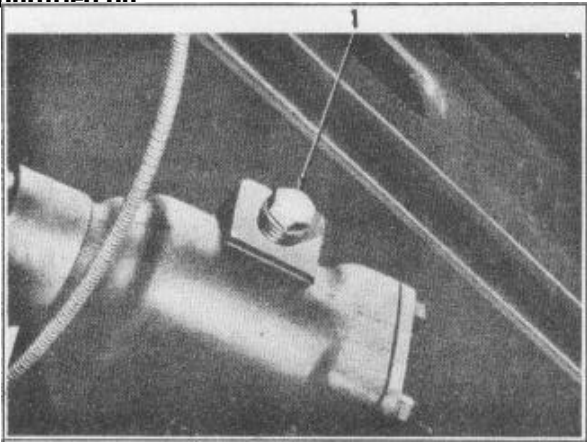

FIGURE 1
The steering gear is filled at the factory with S.A.E. 90 E.P. lubricant. This lubricant is satisfactory for all seasons. The steering gear filler plug (1) Figure 1, should be re-